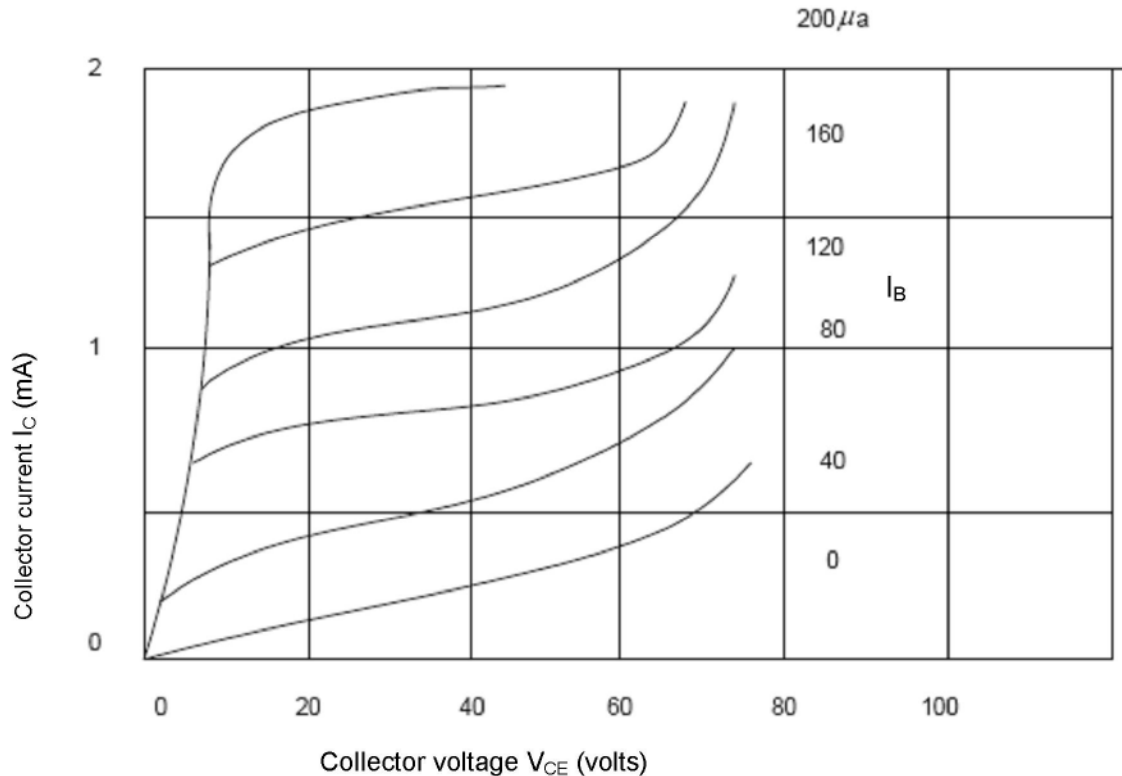

Figure 5.6: Output characteristics at high collector voltages
- Set  $V_{max}$  to the highest scale,  $P_{max} = 0.4W$ , and  $I_{max} = 2mA$ . Copy this characteristic and obtain the collector breakdown voltage with the base injecting current. It may not be possible to see the breakdown voltage, depending on the maximum voltage scale capable of the curve tracer. Typical output characteristics are shown below in Figure 5.6.